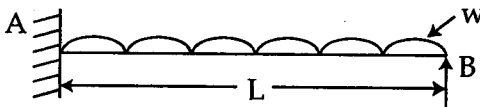

Fig. 3
6. A propped cantilever beam of span 'L' carries a uniformly distributed load of intensity w over the full span as shown in fig. 3. Determine the value of w at collapse. The plastic moment of resistance of the beam is M_p . 14